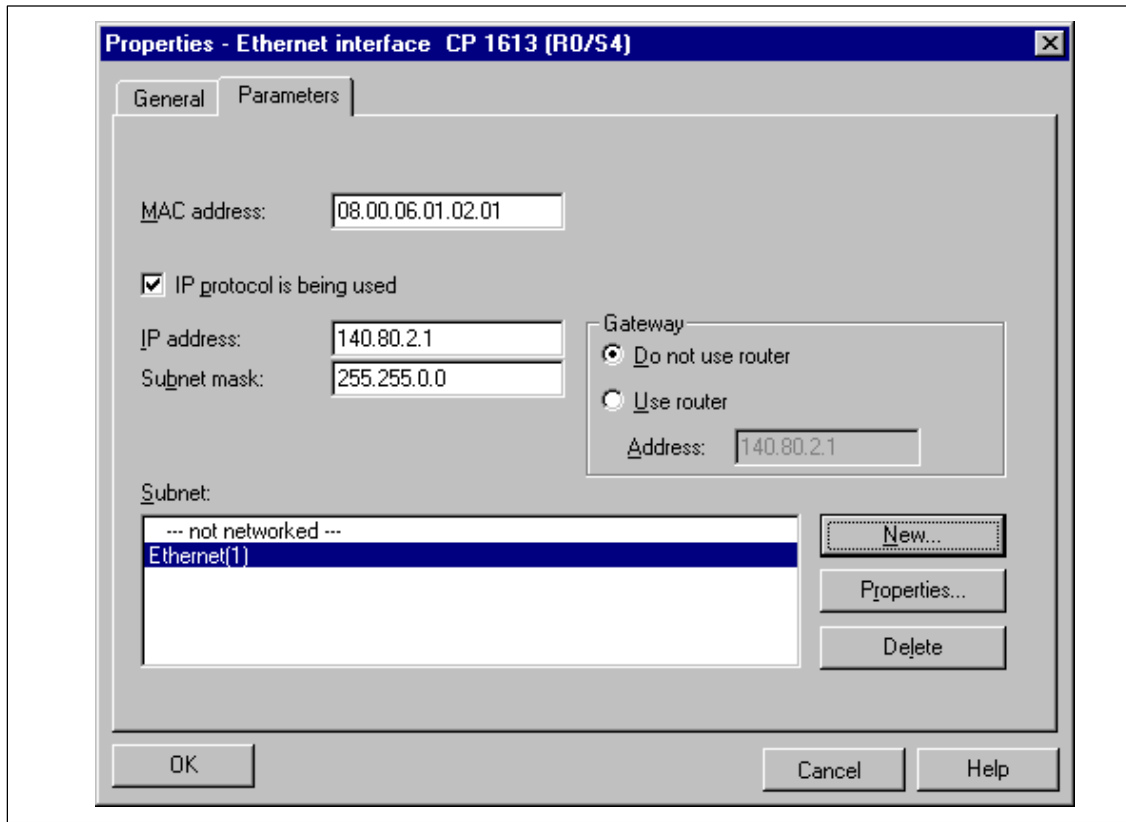

Figure 2-8 CP 1613: Properties of the Ethernet Interface
3. Fill out the properties of the Ethernet interface as shown in Figure 2-8 (create the MAC address and a new subnet) and confirm by clicking on "OK".